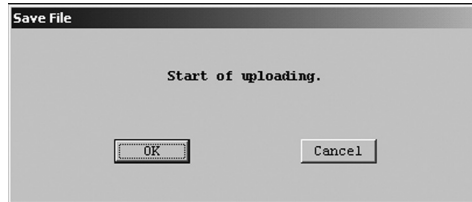

Fig.89
- ① Click on "File (F)" at the top-level menu of the screen, select "Database (F)", select "Save File (S) Ctrl+S" and click on again.
- ② When a message box as shown in Fig. 89 appears, click "OK" to save the file.